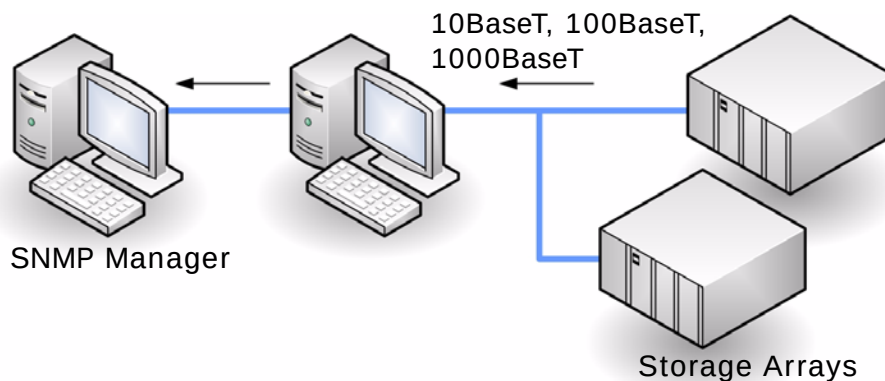

Figure 9-5: Example of a direct connect configuration
- Direct-connect — where a local computer or workstation acting as an SNMP manager is directly connected to the Hitachi modular storage array being managed within a private Local Area Network (LAN). Figure 9-5 shows an example of this configuration.